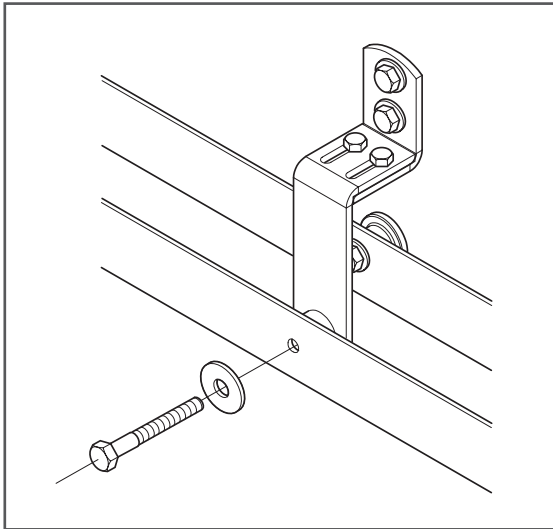

Figure 8
12. Install track to the remaining brackets using lag bolts and washers (provided). Do not tighten until all lag bolt and washers have been installed (Figure 8).